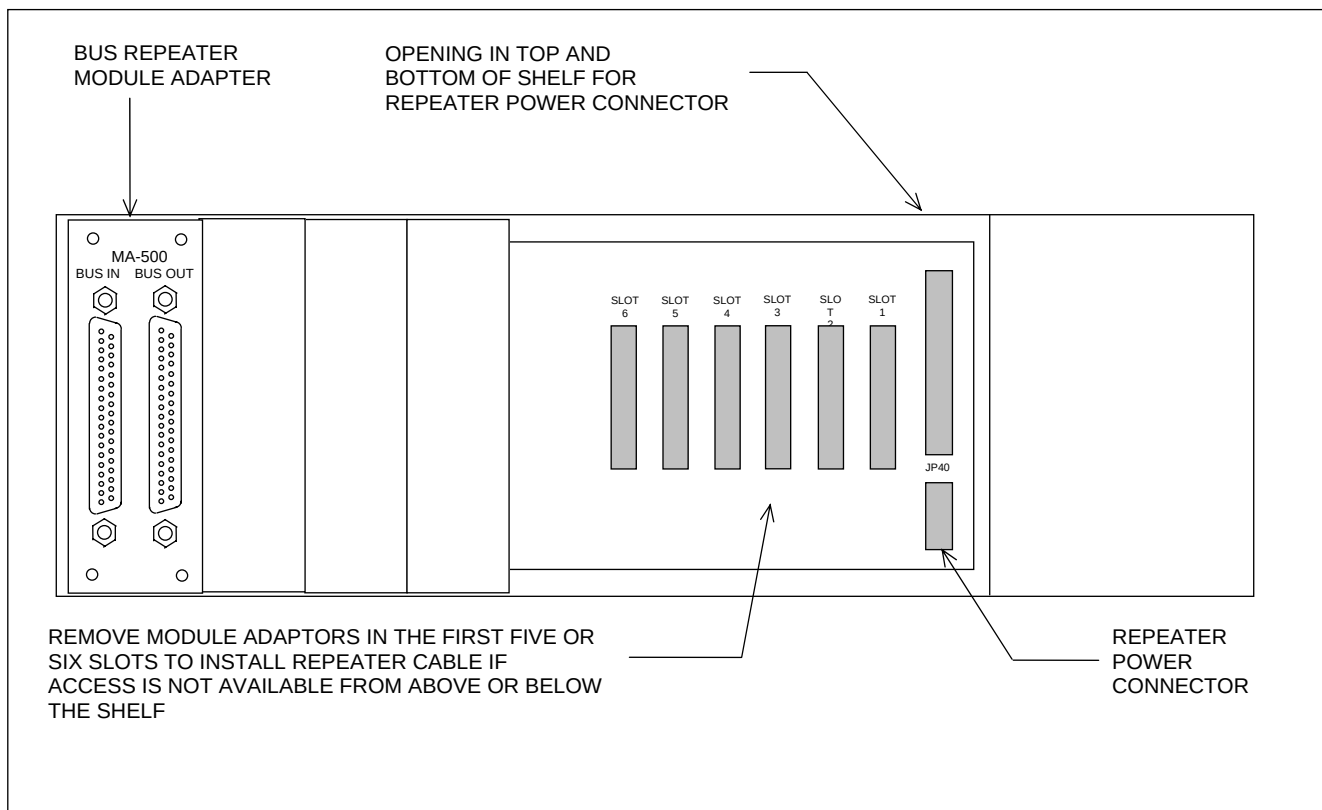

Figure 9-1. Rear view of Main or Repeater Shelf showing Bus Repeater Module and Repeater signal and power connectors.
4. Connect the Repeater Signal cable between the “BUS OUT” connector on the Main Shelf and the “BUS IN” connector on the Repeater Shelf. These connectors are located on the MA-500 Bus Repeater Module Adapter at the rear left of the shelf. (See Figure 9-1.)
These connectors are labeled "JP 40", and are located at the lower right rear of the shelves as shown in Figure 9-1. If the Repeater Shelf has its own power supplies, the Repeater Power cable is not needed.